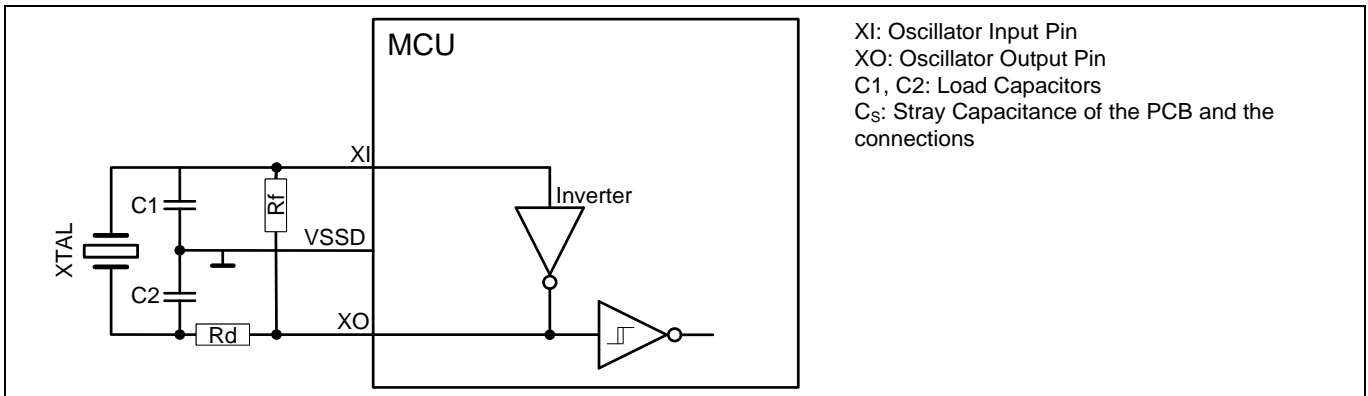
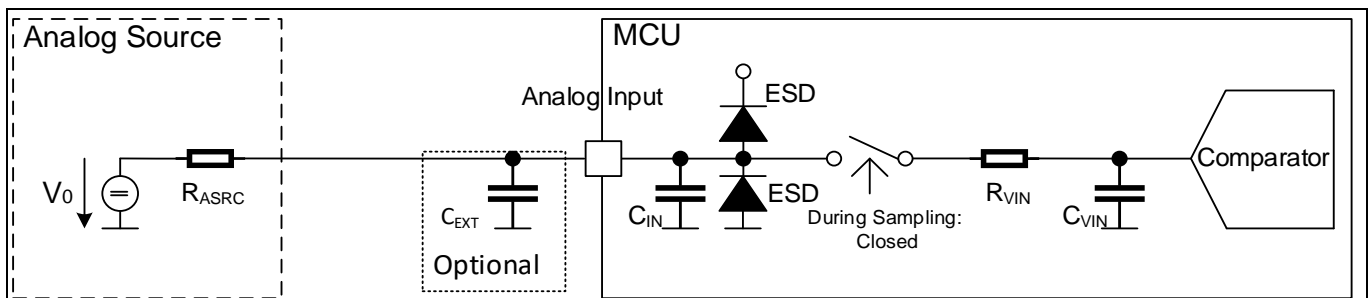

Figure 35 Principle setup of an external oscillator circuit
Figure 38 Analog with optional external buffer capacitor
Note: Figure 35 to Figure 38 showing the implementation of oscillators in the family and trimming features discussed in this application note might differ from the dedicated device architecture TRM. Due to different trimming features, external BOM cost can be reduced in the ECU design.
Figure 35 shows the principle of an external oscillator circuit. The feedback resistor (R_f) is required to make the inverter act as an amplifier. Optionally, a damping resistor (R_d) is required for drive level (DL) reduction. If the DL is too strong, the crystal can be damaged over life time. The load capacitance C_L is the terminal capacitance
Figure 38 shows a principle circuit between the sensor, the analog source V_0 , and the analog input.